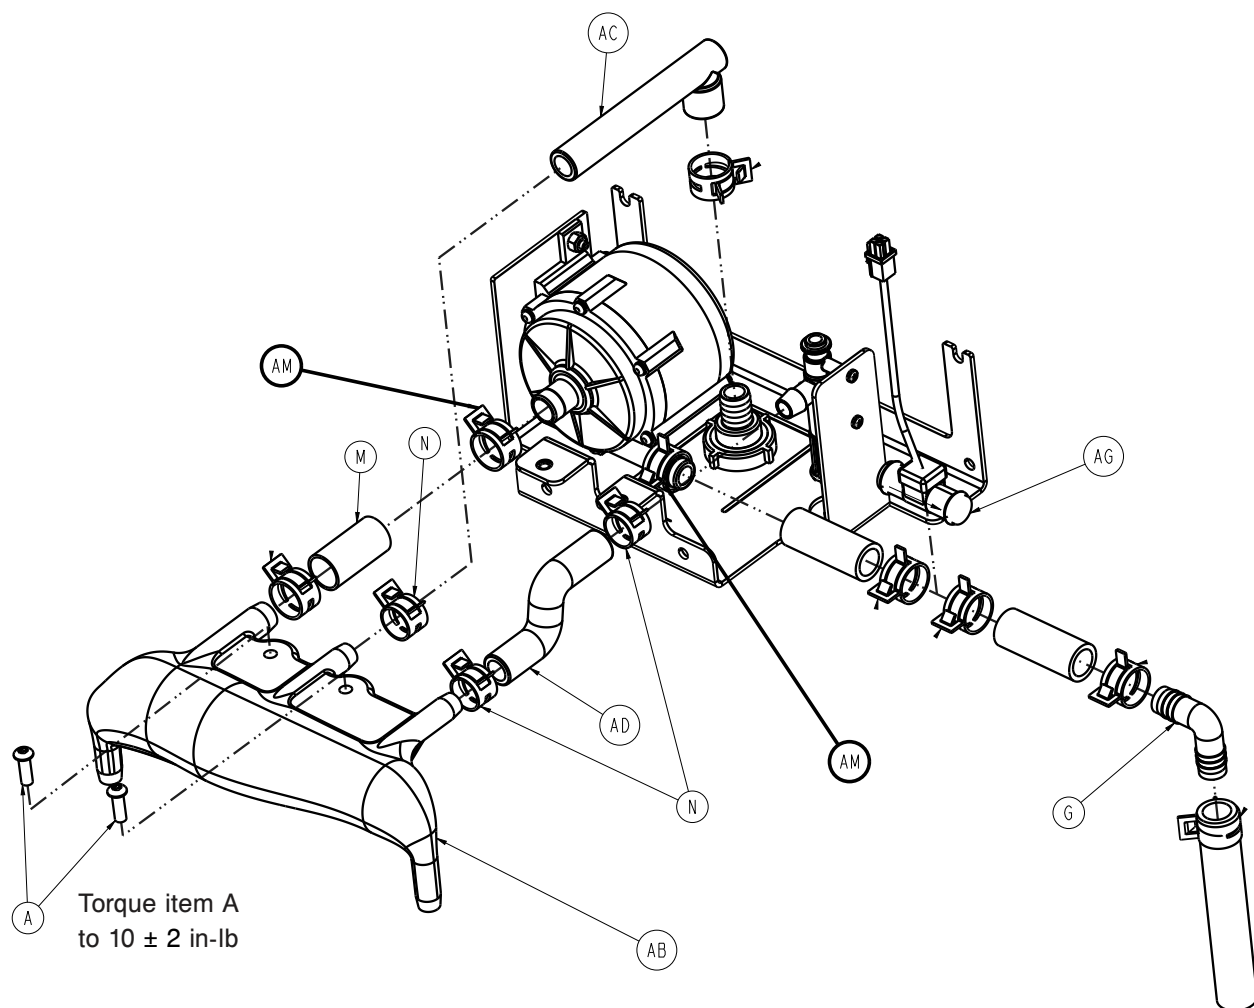

Figure 22 – Two hose clamps
10. Using needle nose pliers, squeeze the two hose clamps (AM) that secure the tubing to the fluid pump (Figure 22).